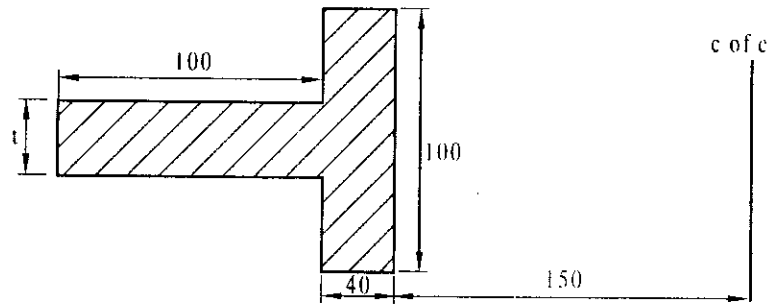

Fig.1.35
4. Determine of value of t in the cross section of a curved beam shown in Fig.1.35 such that the normal stresses due to bending at the extreme fibers are numerically equal.